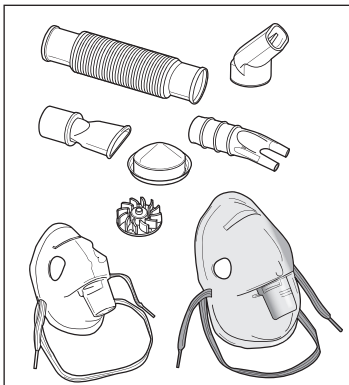

Fig. 2
3. Wash the mouthpiece, fan, medicine cup and air filter cover in warm water with mild detergent. Rinse thoroughly, Fig 2.